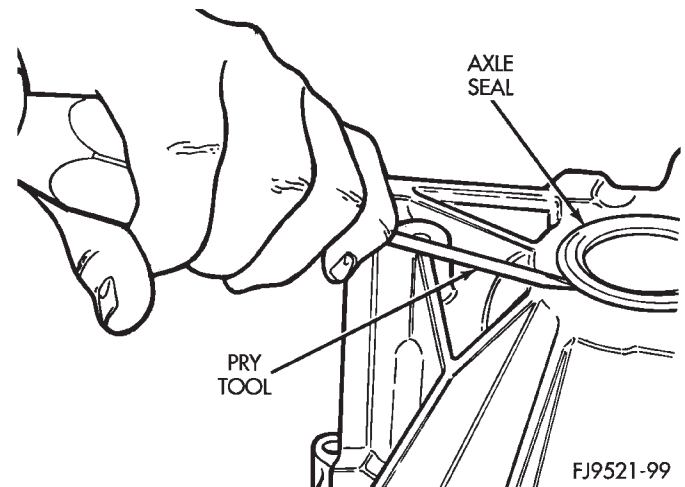

Fig. 18 Axle Shaft Seal Removal
- (1) Remove axle shaft. Refer to Group 2, Suspension and Driveshafts for service procedures.
- (2) Insert a flat-blade pry tool at outer edge of axle shaft seal (Fig. 18).
- (3) Tap on the pry tool with a small hammer and remove axle shaft seal.